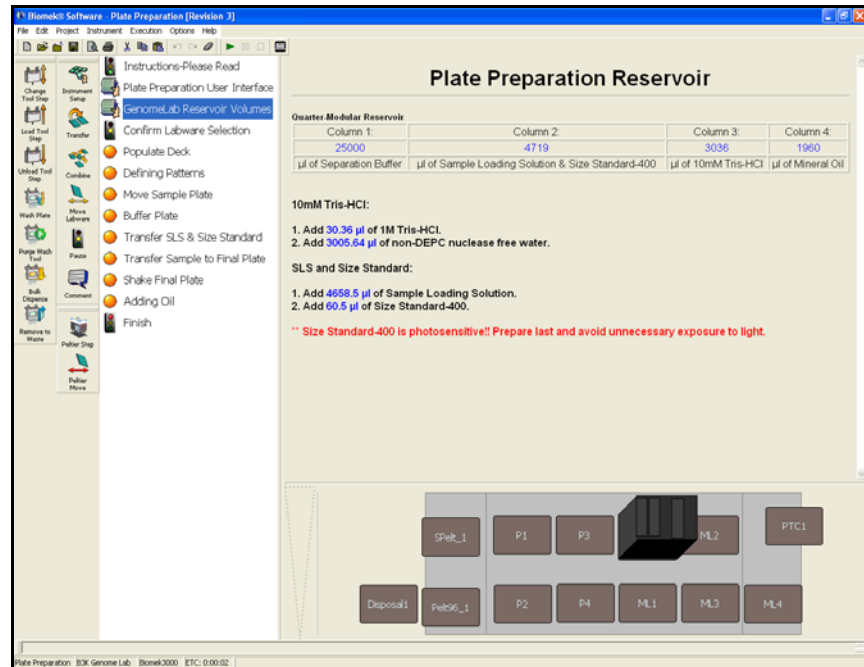

Figure 1-20. GenomeLab Reservoir Volumes step
16. Select the GenomeLab Reservoir Volumes step (Figure 1-20).